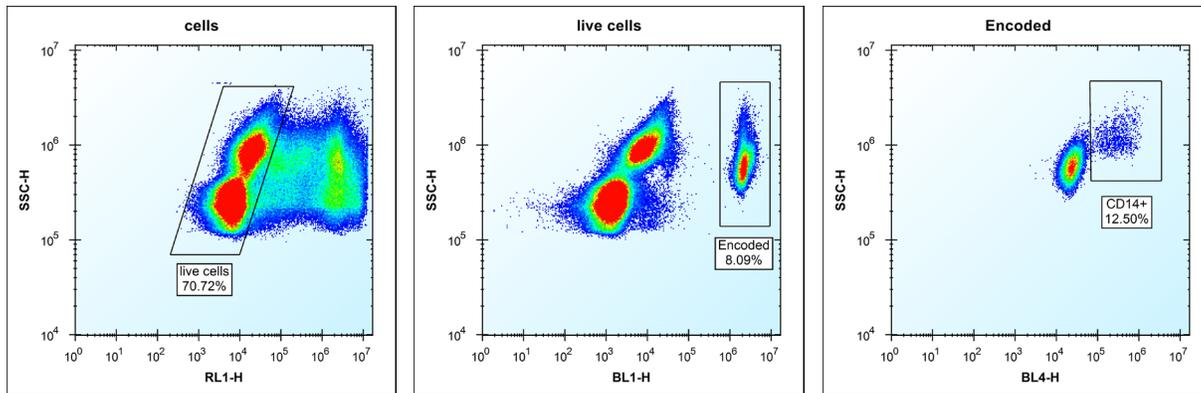

Figure 4: iQue® Human Antibody Dependent Cellular Phagocytosis (ADCP) Kit gating for B/Green encoded Ramos cells with PBMCs.
- 6.7 Use template to gate Cells  $\rightarrow$  Live Cells  $\rightarrow$  Encoded  $\rightarrow$  CD14+ (see Figure 4).